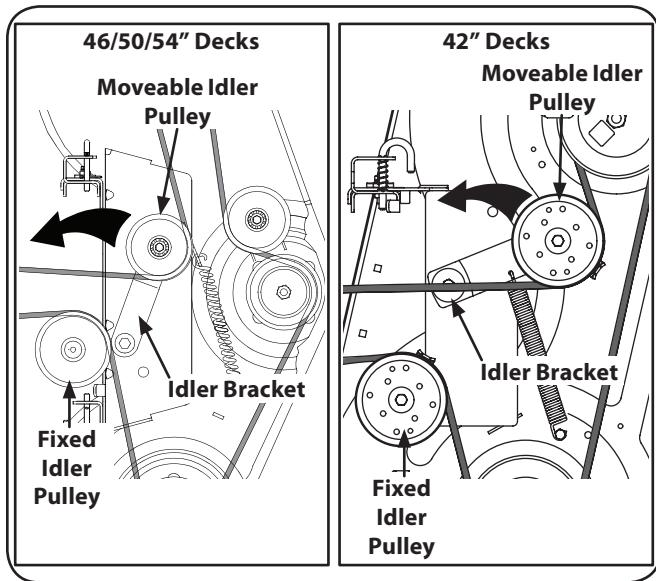

Figure 7-4
- Working from the middle of the tractor, pivot the idler bracket and movable idler pulley rearward away from the backside of the 'V' belt just far enough to lift the belt up and over the idler pulley. See Figure 7-4.